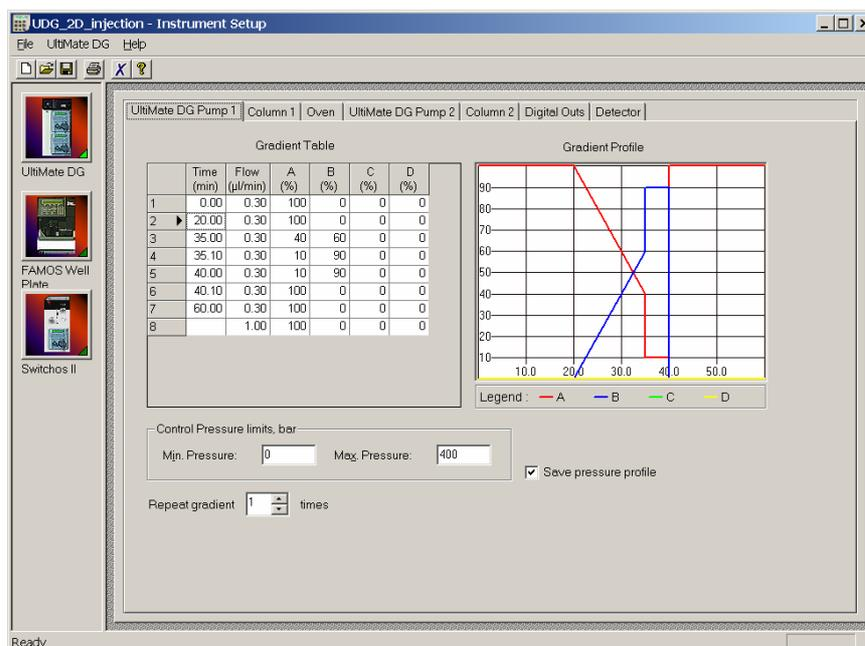
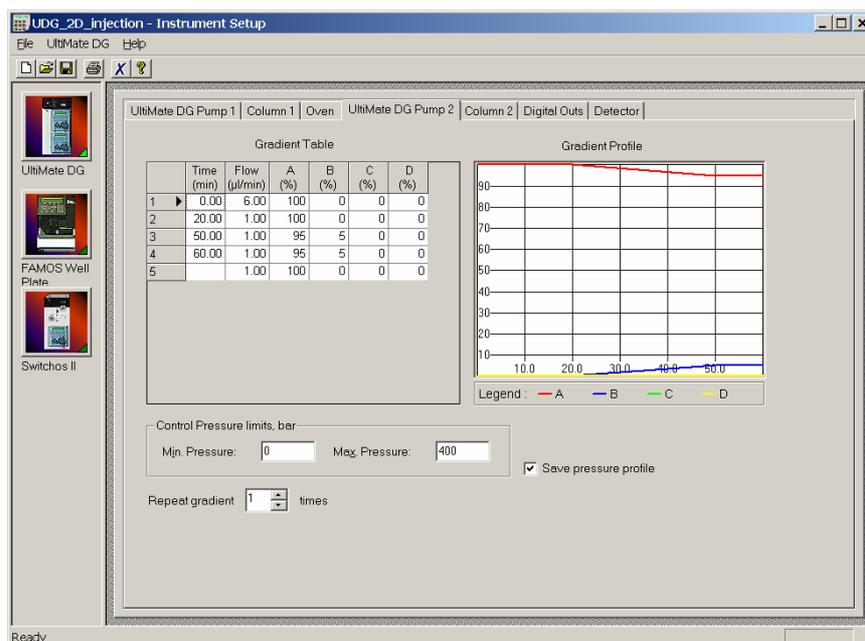

FIGURE 3-4 Gradient Program for the Gradient Pump 1
FIGURE 3-5 Gradient Program for the Gradient Pump 1
- Choose the **UltiMate DG Pump 1** and **UltiMate DG Pump 2** tab to display the pump setup windows and program the required gradients as discussed in Section 2.5.2 A. The following pictures present typical gradients for the gradient pump 1 (FIGURE 3-4) and gradient pump 2 (FIGURE 3-5).